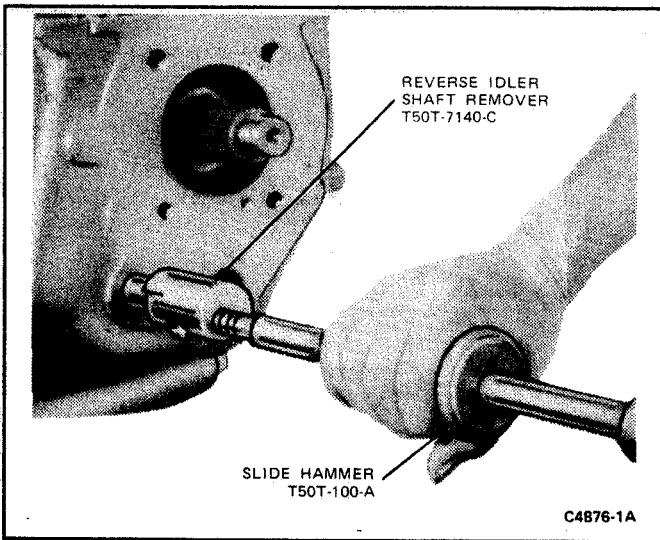

FIG. 11 Removing Reverse Idler Shaft
17. Remove the idler shaft (from the front of the transmission) using the tools T50T-100-A and T50T-7140-C as shown in Fig. 11. Exercise caution so as not to damage the transmission case while using the tool to remove the idler shaft.